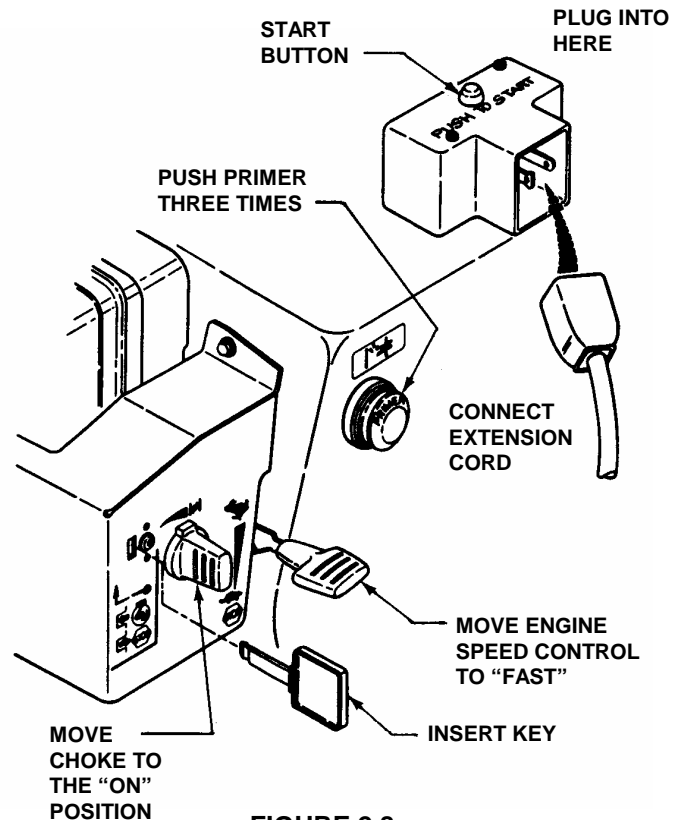

FIGURE 2.8
2. Insert key into ignition switch. See Figure 2.8.
4. Move choke control to the choke, "ON" position. See Figure 2.8.
5. Move engine speed control to the "FAST" position. See Figure 2.8.
7. Push the electric starter button. DO NOT hold button for more than 20 seconds to avoid damaging the starting motor. See Figure 2.8.